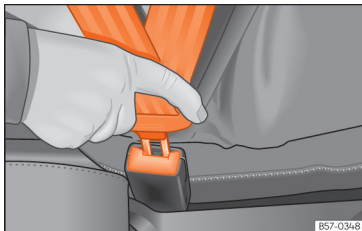

Fig. 10 Insert the latch plate of the seat belt into the buckle.
- Engage the latch plate in the buckle of the corresponding seat »» » **Fig. 10**.